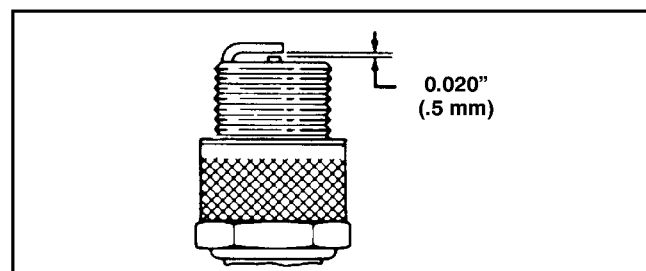

Figure 18
3. Set air gap at 0.5 mm (0.020") (Fig. 18). Install correctly gapped spark plug and gasket seal. Tighten plug firmly to 19 N·m (14 ft–lb).